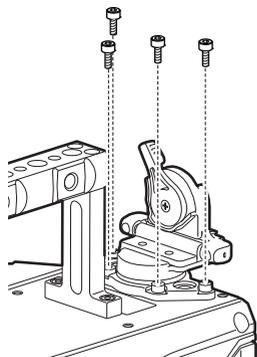

Fig. 1
- 1** Mount the control panel mounting part using the four supplied screws. (Fig. 1)